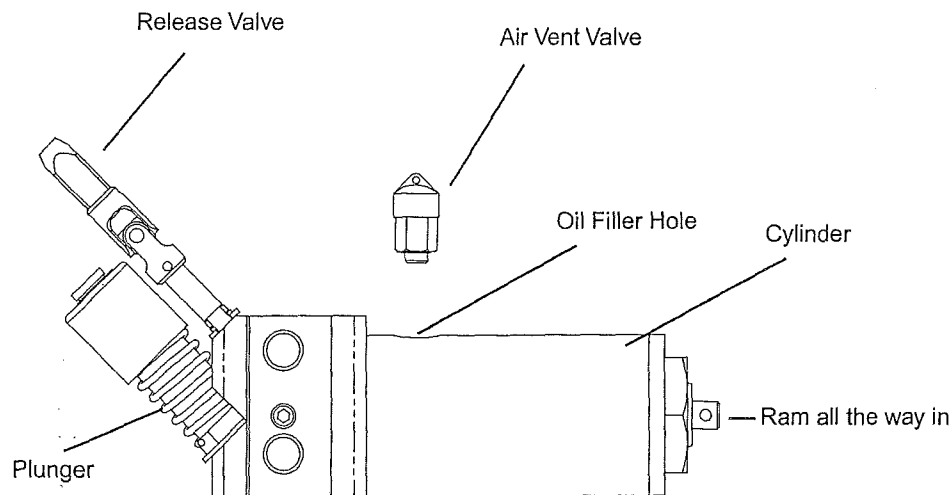

FIG. 4
- Remove the air vent valve from the cylinder. (see Fig. 4)
- Check ram and pump plunger (see Fig. 4) every few months for any signs of rust or corrosion. Clean as needed by wiping with an oily cloth.